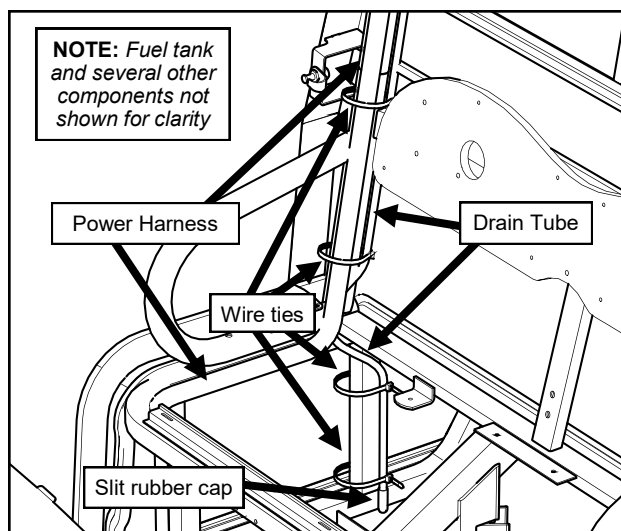

Fig. 6.2 (Power Harness & drain routing)
- 6.2** Continue the power harness and drain along the ROPS, with the drain tube behind the cross bar for the seat per Figure 6.2. Feed the power harness and drain tube through the gap between the plastic trim and the metal seat frame at the corner of the seat base. Loosely secure the harness and drain to the ROPS with two wire ties as shown.